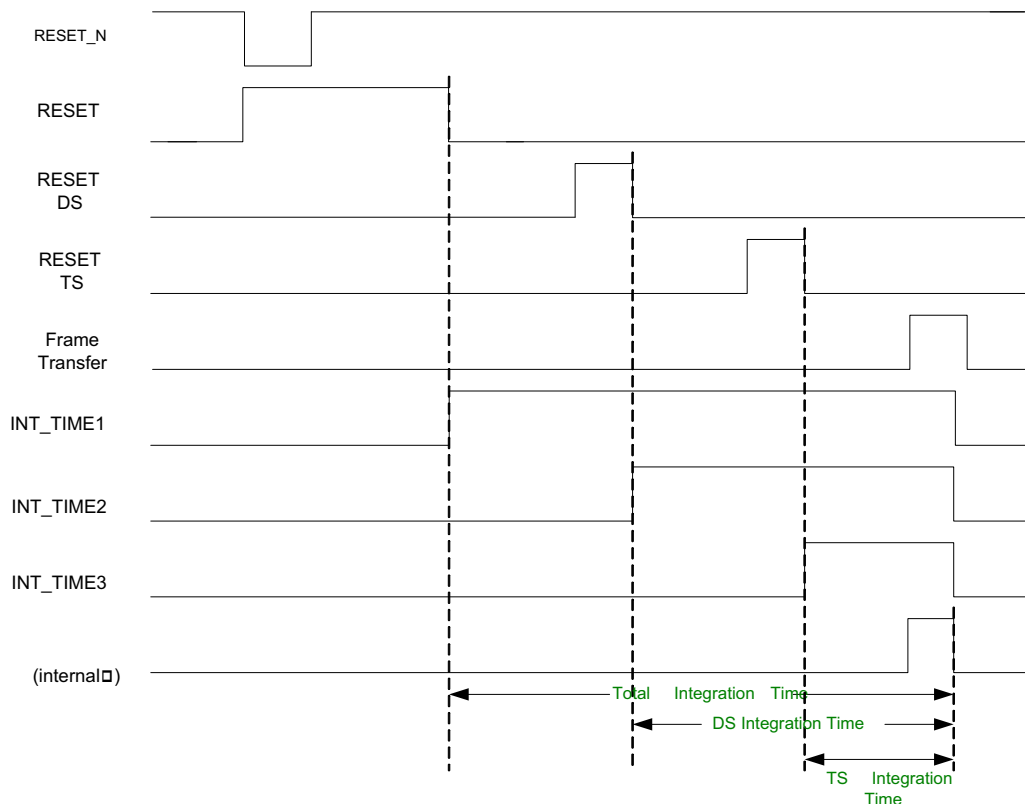

**Figure 15. Integration Timing in Master Mode**
In mastermode the integration time, the dual slope (DS) integration time, and triple slope (TS) integration time are set by the SPI settings. Figure 15 shows the integration timing and the relationship with the SPI registers. The timing concerning integration is expressed in number of lines read out. The timing is controlled by four SPI registers which need to be uploaded with the desired number of lines. This number is then compared with the line counter that keeps track of the number of lines that is read out.
**FT\_TIMER <11:0>**: The number of lines read out (minus 1) after which the Frame Transfer (FT) and the FOT starts. The length of the pulse is given by the formula:  $4 \cdot (12 \cdot (\text{GRAN} < 1:0 > + 1) + 1)$  (in clock cycles).
The length of the integration time, the DS integration time and the TS integration time are indicated by 3 output pins: INT\_TIME\_1, INT\_TIME\_2 and INT\_TIME\_3. These outputs are high during the actual integration time. This is from the falling edge of the corresponding reset pulse to the falling edge of the internal pixel sample. Figure 16 illustrates this. The internal pixel sample rises at the moment defined by FT\_TIMER (see Figure 15) and the length of the pulse is  $4 \cdot (12 \cdot (\text{GRAN} < 1:0 > + 1) + 2)$ .